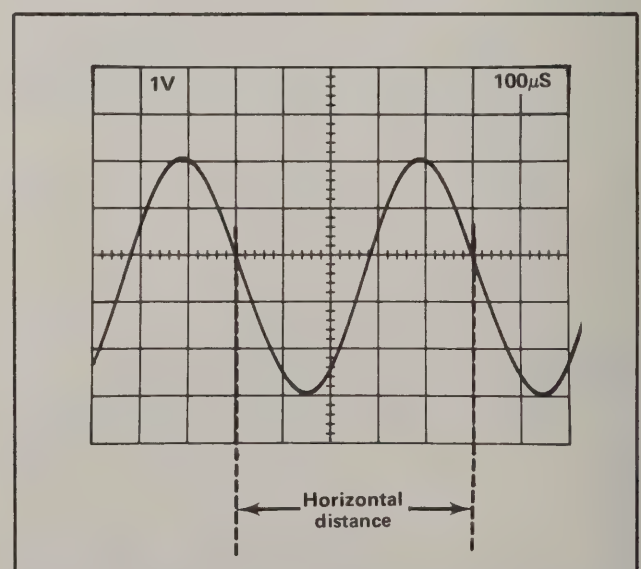

Fig. 1-13. Measuring the time duration between points on a waveform.
**Example.** Assume that the distance between the time measurement points is five divisions (see Fig. 1-13), and the TIME/DIV OR DLY TIME switch is set to  $.1 \text{ ms}$ .
**Example.** The frequency of the signal shown in Fig. 1-13 which has a time period of 0.5 millisecond is: